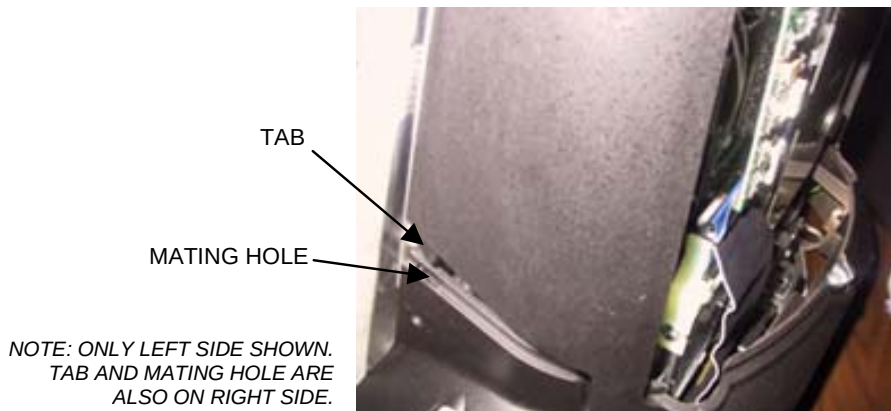
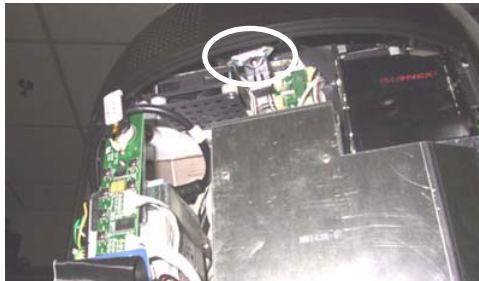

FIGURE 8 - SIDE VIEW OF GAME
FIGURE 1 - ROTARY DRAW LATCH INSIDE TOP COVER
5. Reconnect the ground wire to the rear cover and lower the cover into place, carefully lining up the 2 tabs on the cover with the 2 mating holes on the sides of the game (see Figure 8). Make sure the plastic lip on the bottom of the rear cover is behind the metal base. Tighten the screw securing the bottom of the door. See Figure 2. Turn the wing on the draw latch clockwise to engage the latch (see Figure 1).
3. Reach under the center of the top of the cover to locate the rotary draw latch (see Figure 1). Turn the wing on the latch counterclockwise to disengage.